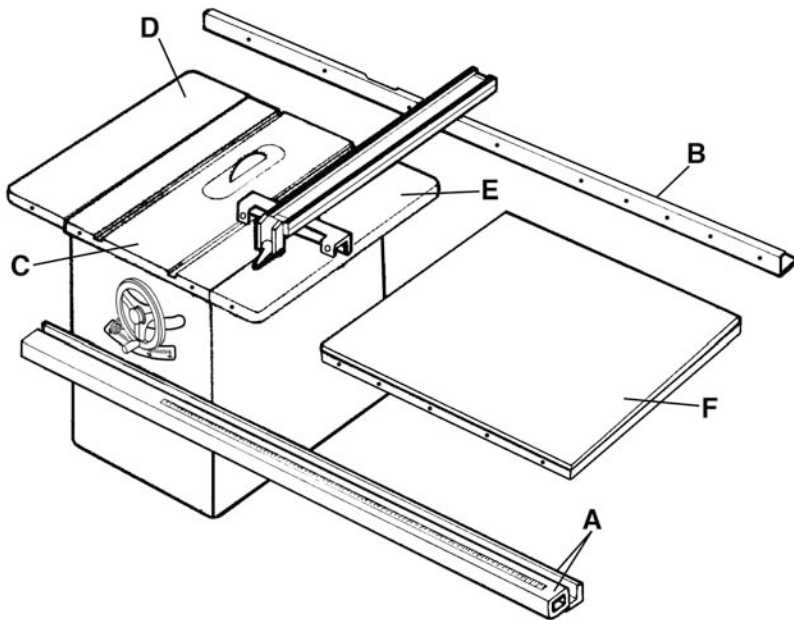
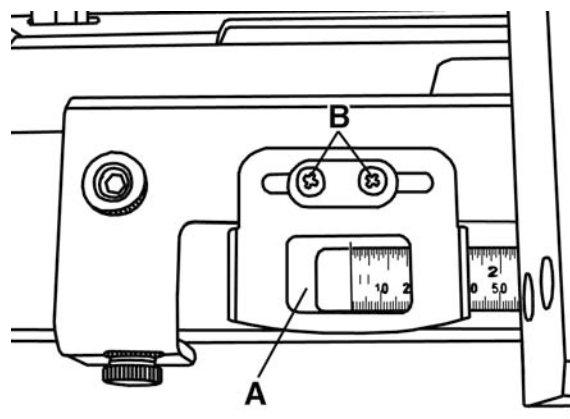

FIGURE 8
FIGURE 9
Place and align the mounting holes of the front rail and tube assembly (A) Fig.8 with the holes in the front lip of the table (C) and extension wings (D & E). Install the front rail and tube assembly to the table and extension wings using 4 hex. bolts, 8 washers, 4 spring washers and 4 hex. nuts. Before securing it in place, adjust it up or down to ensure the front rail edge is set at 3/16" below the beveled edge of the table and extension wings. Once adjusted, tighten all 4 bolts.
Place and align the mounting holes of the rear rail (B) Fig.8 with the holes in the rear lip of the table (C) and extension wings (D & E). Install the rear rail to the table using 2 hex. bolts and 2 washers. Then 2 use hex. bolts, 4 washers, 2 spring washers and 2 hex. nuts to fix the rear rail to the extension wings. Before securing it in place, adjust it up or down to ensure the rear rail edge is set flush with the lowest edge of the miter gauge slot (to allow free movement of the miter gauge). Once adjusted, tighten all 4 bolts.
Once both rails are installed, place the laminated extension table (F) Fig.8 between the front and rear rails. Fix it in place using hex. bolts, washers, spring washers and hex. nuts. Before securing it in place, adjust it up or down to ensure the top of the laminated extension table is set flush with the top of the right side extension wing (E). Once adjusted, tighten all bolts.
Only proceed with this step once the rip fence system has been adjusted and that the fence is perfectly parallel with the saw blade. See "Fence Adjustments". Slide the fence against the saw blade. Place the measuring tape on the tube (A) Fig.8 under the pointer window (A) Fig.9. The pointer window contains 2 small red lines which represent the thickness of the blade kerf, line up the zero mark of the measuring tape underneath the red line on the left side. Make sure the measuring tape is positioned perfectly parallel to the tube and that the measurements are clearly visible. Remove the fence. Peel away a small portion at a time of the measuring tape backing and carefully install. We suggest taking your time during this installation, if a mistake is made and the zero mark does not align perfectly, loosen the pointer window screws (B), reposition the pointer window in the correct position and retighten the screws.